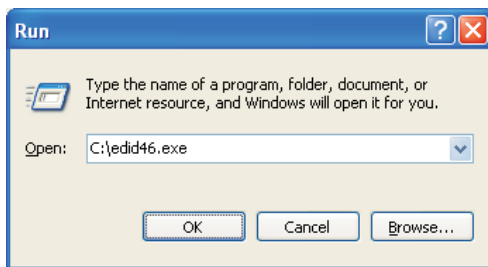

Fig. 5
3. At the submenu, type the letter of your computer's hard disk drive followed by :EDID301 (for example, C:\EDID301, as shown in Fig. 5).